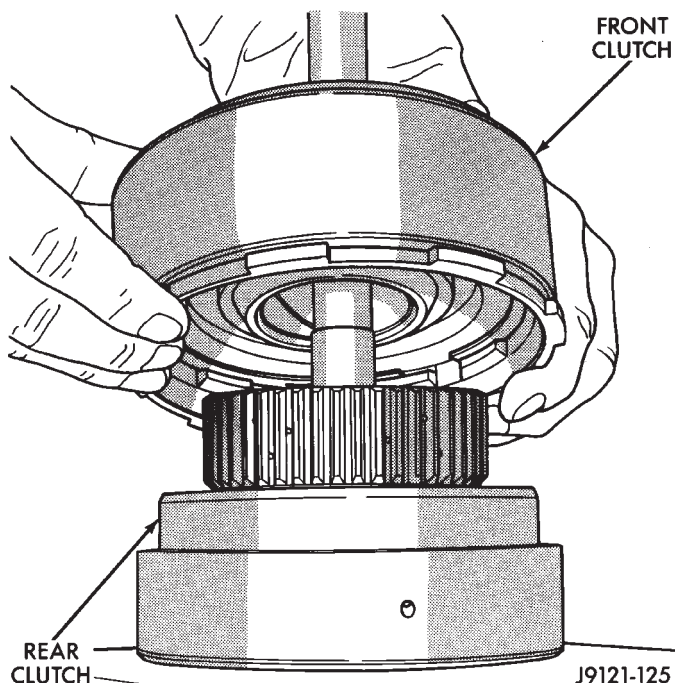

Fig. 15 Separating Front/Rear Clutch Assemblies
(24) Lift front clutch off rear clutch (Fig. 15). Set clutch units aside for disassembly, cleaning and overhaul.